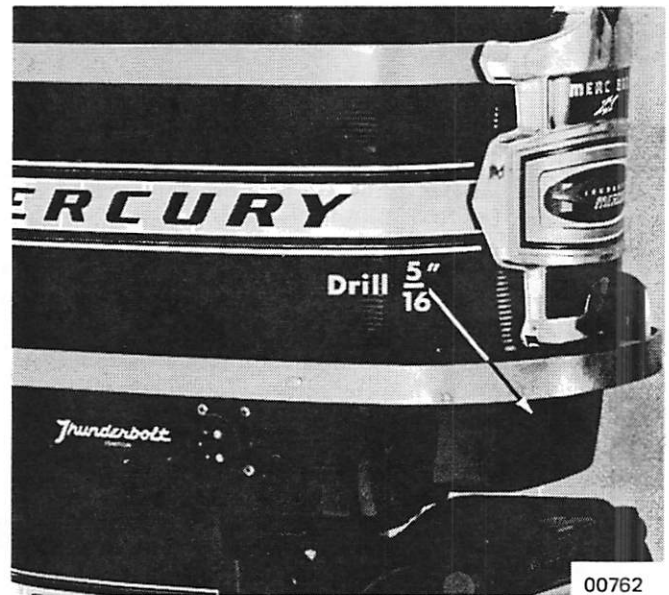

Figure 2. Hole in Bottom Cowl
5. Drill 5/16" (7.94mm) hole in bottom cowl. (Figure 2)